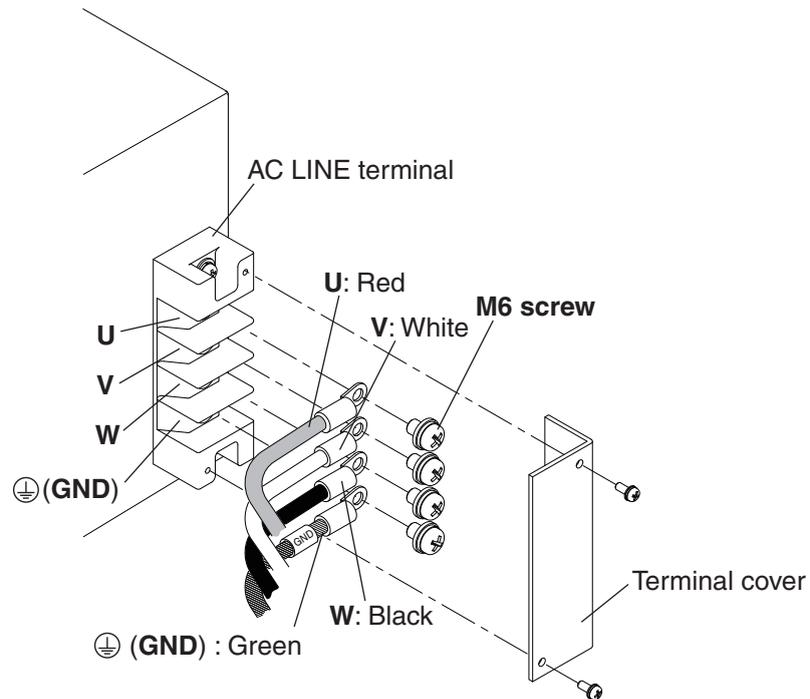

Fig. 2-4 Connecting the power cables
- 3** Connect the power cable to the AC LINE terminal block as shown in Fig. 2-4.